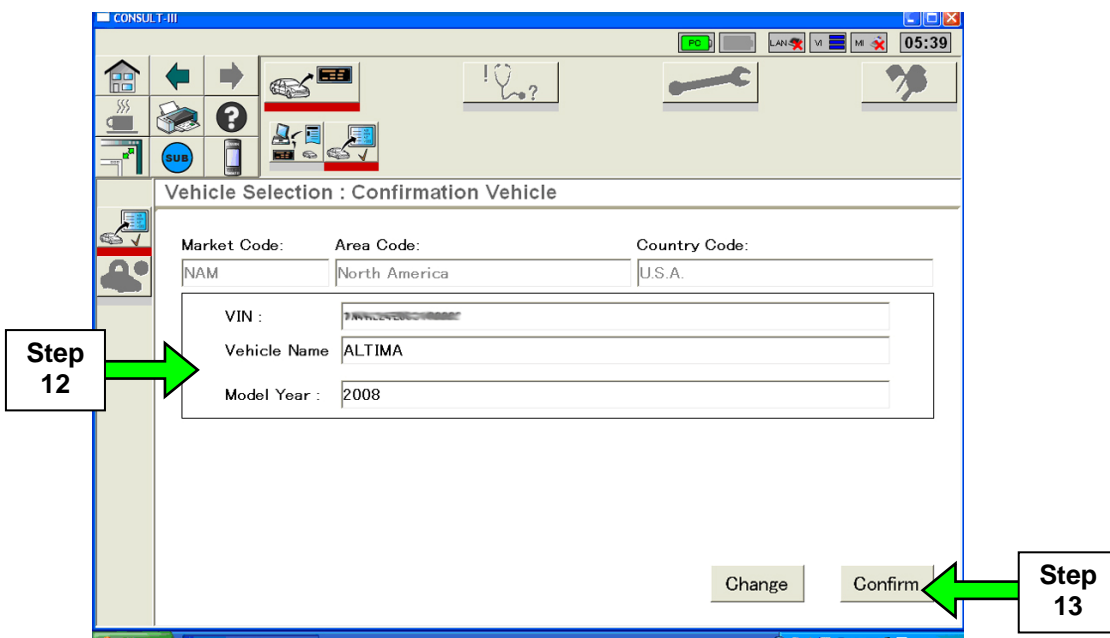

Figure 3
12. Make sure the correct vehicle is displayed. (See Figure 3.)